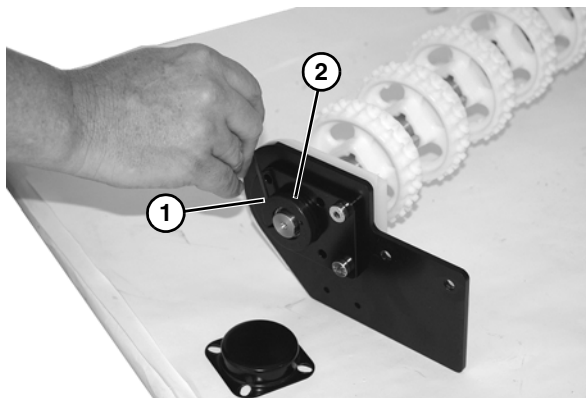

Figure 38
5. Loosen set screw (Figure 38, item 1) and remove clamp collar (Figure 38, item 2).